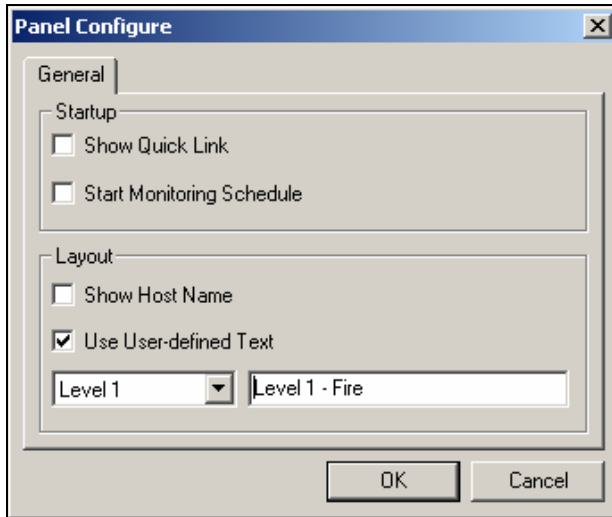

Figure 6-22
- To set the Quick Link window at panel startup, see the **Show Quick Link** option in Figure 6-22.